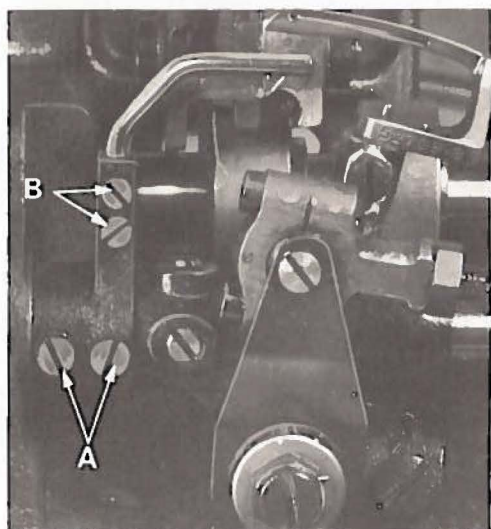

Fig. 11
but not pick at the left needle. It should be set as low as possible, yet have its vertical face push the left needle until the point of the looper is just past the left side of the left needle. The front needle guard should not contact the rear needle guard or right needle at any time. To move guard forward or backward, merely loosen screws (A, Fig. 11), move needle guard as required and retighten screws. To raise, lower or rotate needle guard, loosen screws (B), move guard and retighten screws after guard is properly set.